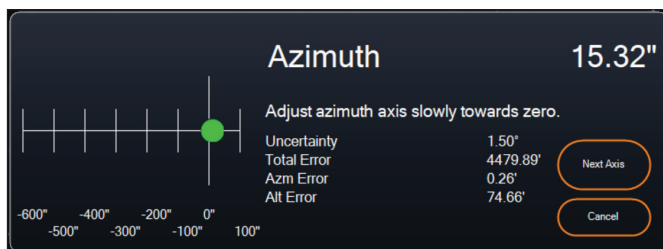

Fig. 18: Azimuth Axis Adjustment window during polar alignment in CPWI.
4. After SSAG has obtained its polar alignment references, it will display the azimuth axis adjustment window (Fig. 18). Slowly fine-adjust your mount's azimuth until the "Azm Error" is less than two arcminutes.